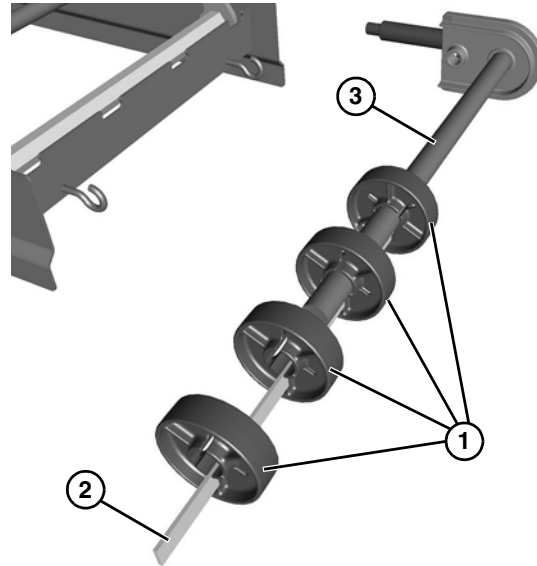

Figure 67
1. Place the pucks (Figure 67, item 1) onto the alignment bar (Figure 67, item 2), and install onto the idler shaft (Figure 67, item 3).
2. Slide all the idler pucks (Figure 67, item 1) along with alignment bar onto idler shaft (Figure 67, item 3).